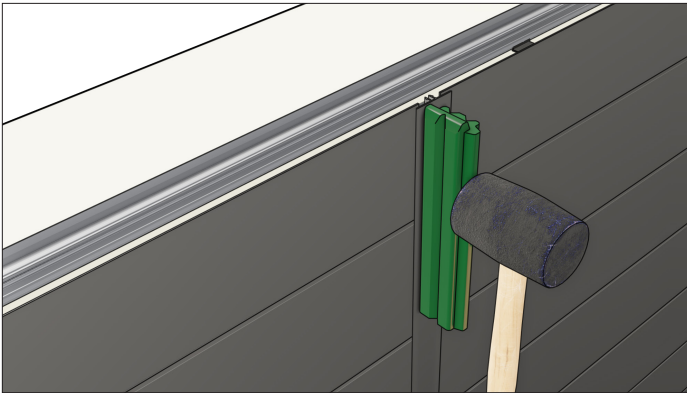

Figure 22.1
29. Connect the top cap using a HammerBlock® and rubber mallet, by striking the HammerBlock® to engage the trim. (Figure 22.1)